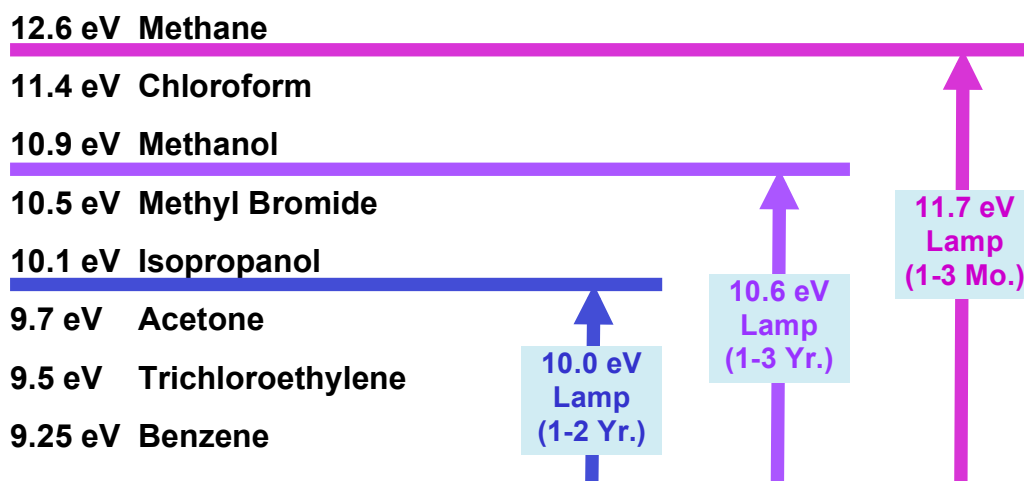

Figure 2. PID lamp energy thresholds.
Three PID lamps are available with maximum photon energies of 10.0 eV, 10.6 eV, and 11.7 eV. Figure 2 illustrates that a lamp can only detect those compounds with ionization energies (IE) equal to or below that of the lamp photons. Thus, a 10.6 eV lamp can measure hydrogen sulfide with IE of 10.5 eV and all compounds with lower ionization energy, but cannot detect methanol or compounds with higher IE. The choice of lamp depends on the application. When only one compound is present, one can use any lamp with enough photon energy, often the standard 10.6 eV lamp which is the lowest cost and has a long working life of up to a few years. For high IE compounds like chloroform, it is necessary to use the 11.7 eV lamp, which has a short life of only a few months. In the case of compound mixtures, use the lowest energy lamp possible. For example, to measure acetone in the presence of isopropanol one could use the 10.0 eV lamp, which does not have any interference from isopropanol.